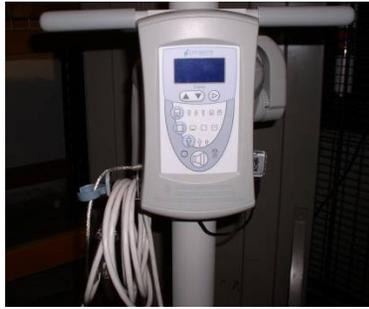

Figure 50
14. Attach the control panel on to the cradle (see Figure 50 on page 28).